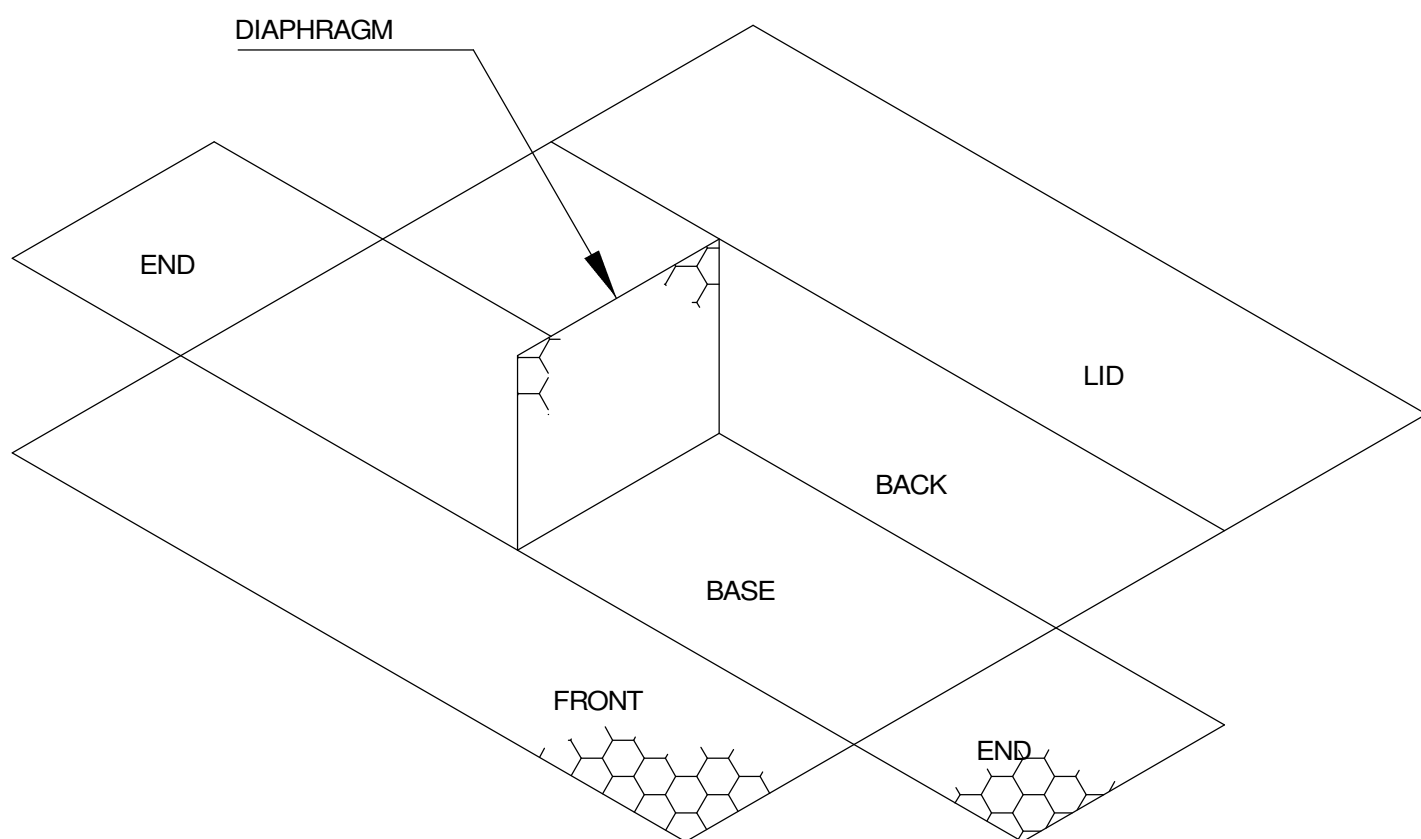

FIGURE 3
1. UNFOLD EACH INDIVIDUAL UNIT ON A HARD FLAT SURFACE AND PRESS THE GABION OUT TO ITS ORIGINAL SHAPE. (FIGURE 3)